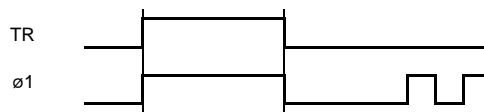

Figure 24: TR-Ø1 Guardband Can Be Equal To 0
- The TR-Ø1 guardband may be equal to 0, causing TR and Ø1 to go high simultaneously and low simultaneously (Figure 24). This is a requirement of some Canon CIS sensors.